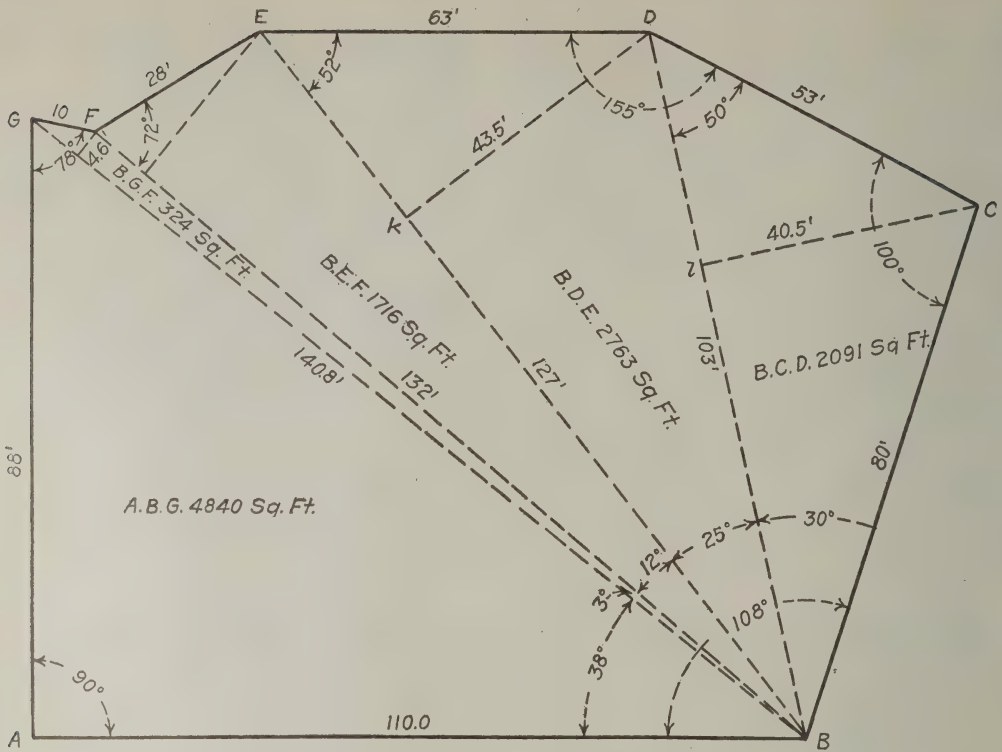

Figure 13.
**N**OW while we found the area of the plot shown in Figure 13, as close as we could scale our drawing, we can also find it by the other method. You will remember the rule that the area of any triangle equals the square root of one-half the sum of the three sides multiplied by the difference between the half sum and each of the three sides.
By carrying out this operation we find the area of the triangle A B G equals 4,840 square feet, exactly the same as we found by the other method. The other triangles may be found in the same manner and the results should check very closely with the figures obtained by measuring the altitudes. It must be remembered that it is difficult to *scale* a drawing accurately. For instance, in Figure 13, about three sixty-fourths of an inch, less than one-sixteenth, equal one *foot*, so it is manifestly impossible to get *exact* results unless you draw the plot out at a large scale.